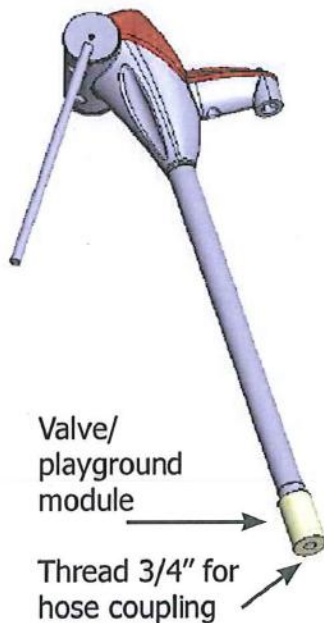

Figure 6: Installing the hose coupling
2. Attach the hose coupling to the valve and install the hose pipe on the hose coupling with a hose clamp (Figure 6).